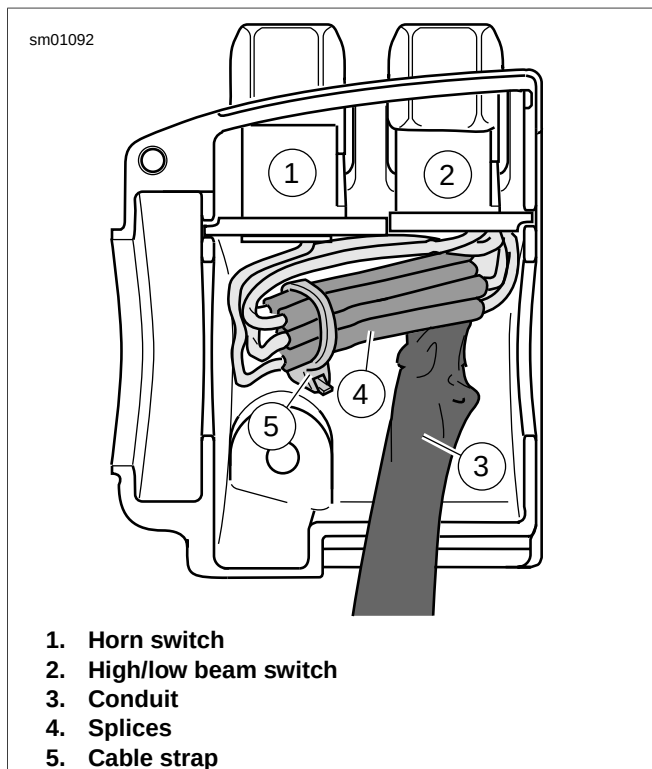

Figure 7-98. Upper Housing With Splices
6. Loop switch wires so that spliced lengths are positioned as shown in Figure 7-98. Route wires downstream of
7. See Figure 7-98. Install a **new** 7.0 in. (177.8 mm) cable strap (5) beneath wing on horn switch side (1) of bracket and capture wire splices (4).